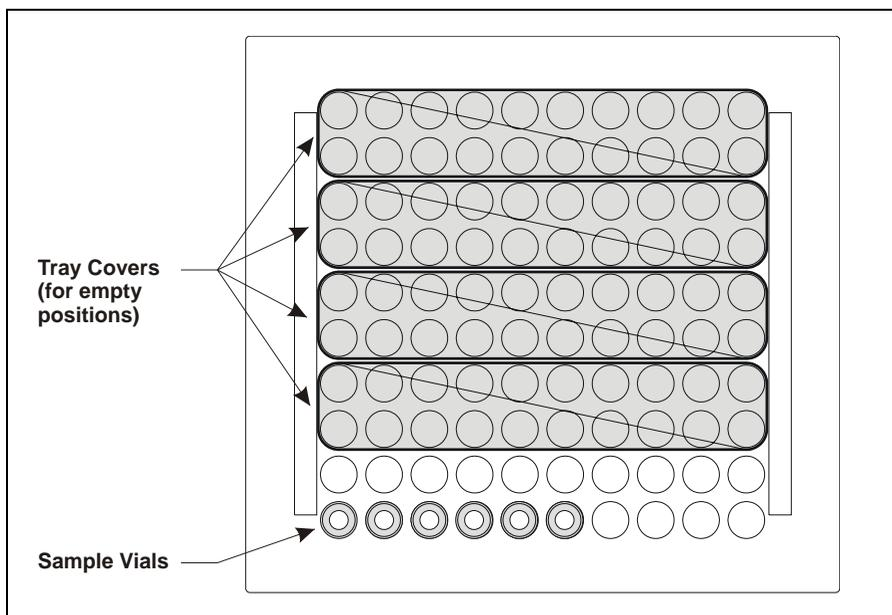

Figure 3-2. Installing Tray Covers (Sample Temperature Control Option Only)
4. If the sample temperature control option is installed, position tray covers (P/N 061010) over any empty positions on the tray (see Figure 3-2). This ensures temperature stability and minimizes condensation, especially at low temperature set points.